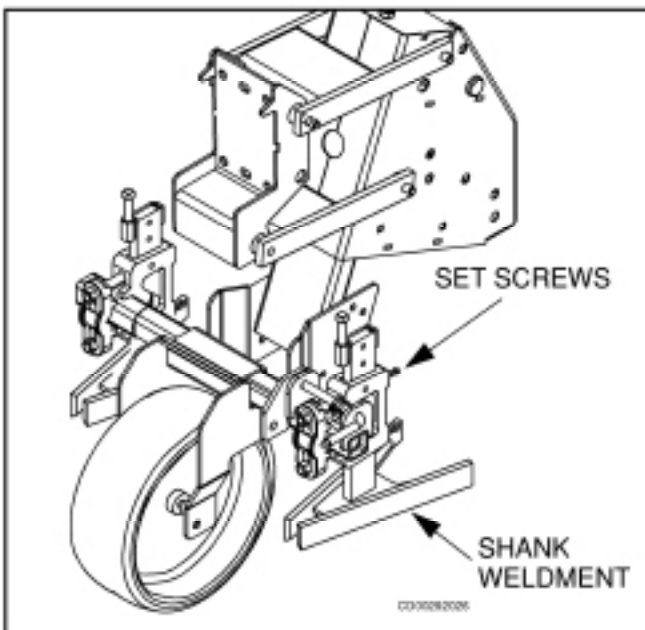

Figure 49 Attaching Shank Weldment
1. Slide shank weldment into clamp assembly, as shown in Figure 49.